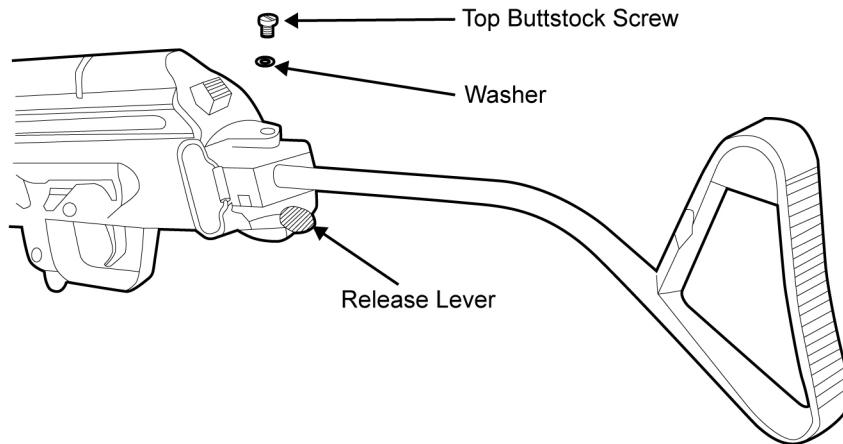

Figure 57. Installing the Washer and Top Buttstock Screw.
g. Install the washer and top buttstock screw. Restake the bottom of the top buttstock screw, twice. Refer to Figure 57.